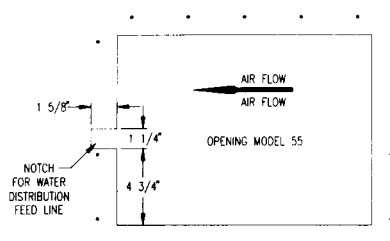

FIGURE 10
3. Mark and drill 2 or 3 of the mounting holes $\frac{7}{64}$ " dia. and temporarily attach the mounting frame with the #8 sheet metal screws provided and mark the remaining holes and center opening as described in Figures 10 and 11.
5. When mounting the Model 55, an additional notch is required as shown in Figure 10. Measure and mark as indicated and cut out this section.